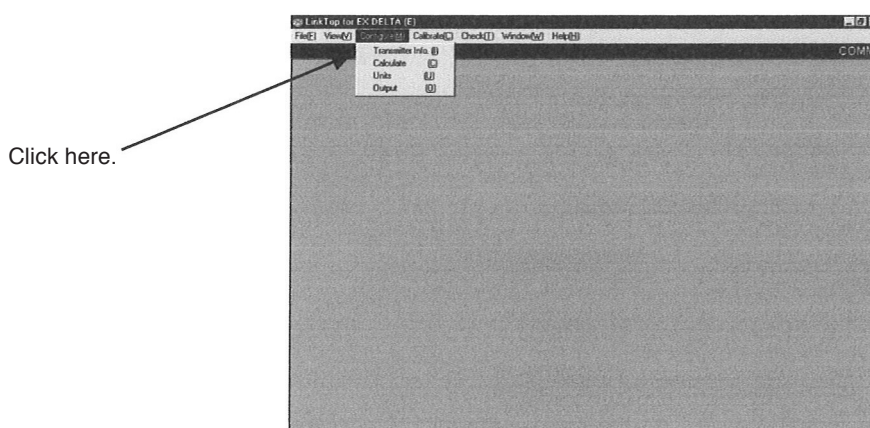

Fig.21
- ① Click on "Configure (M)" at top-level menu of the screen as shown in Fig. 21, select "Transmitter Info. (I)" and click on again.